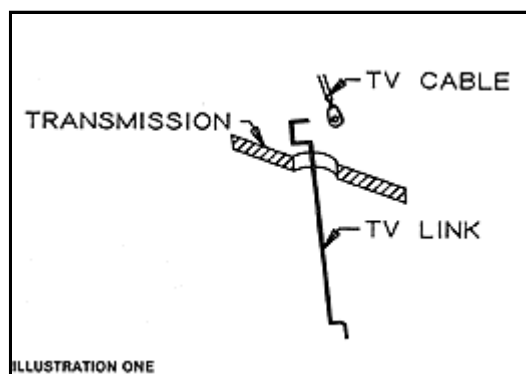

Figure 11
STEP 16 Disconnect the Throttle Valve Cable at the Carburetor so the cable can be moved. Remove the plastic plug from the throttle valve opening in the transmission, you should be able to see a hook in the opening. With needle nose pliers pull the TV link hook out about half an inch. Next, take the end of the TV cable and hook the TV linkage hook into the hole at the end of the cable. Now pull the cable at the other end, making sure that the linkage hook and cable hook fits under the throttle cable housing. Now push the end of the cable housing into the throttle valve cable opening and install the cable (**See Figure 11**).